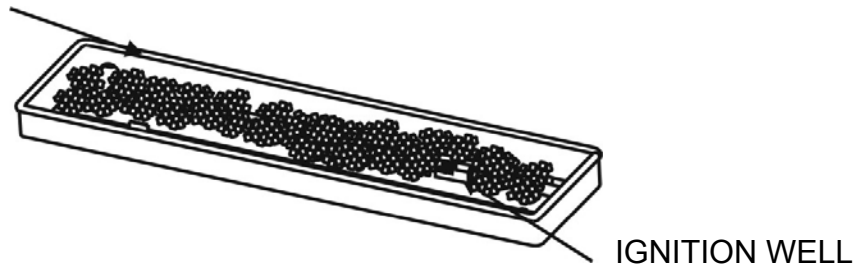

Figure 3
1. Pour the fire ice into the burner pan completely covering the burner. See Figure 3.